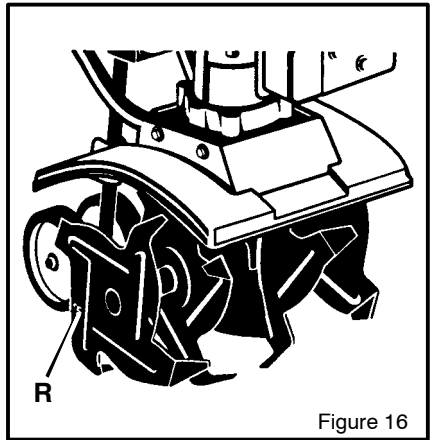

Figure 16
3. When the tines are properly installed, the letter **R** will be visible on the outside of the **right tine** (see Figure 16). The letter **L** will be visible on the outside of the left tine.